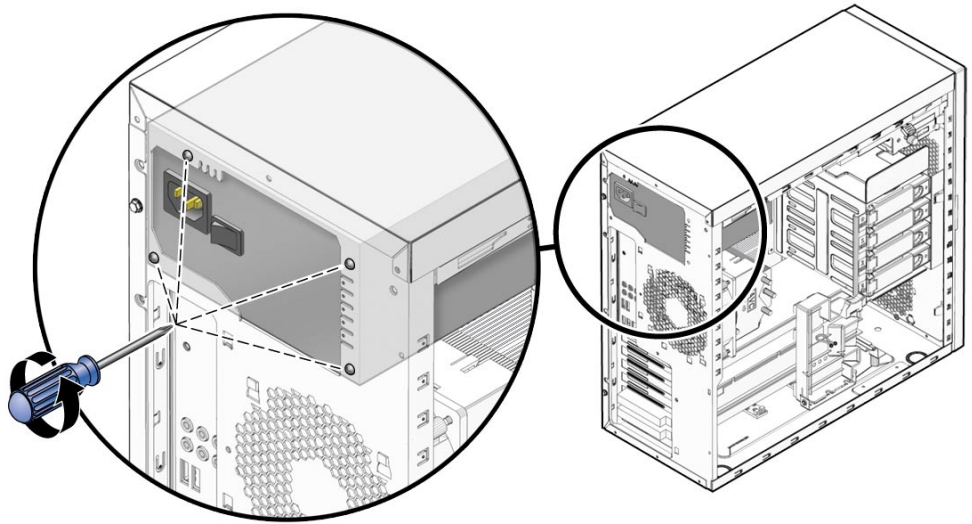

FIGURE 3-27 Removing the Power Supply From the Chassis
- 6 **While supporting the power supply from the interior of the workstation chassis, unscrew the four mounting screws on the back panel (see Figure 3-27).**